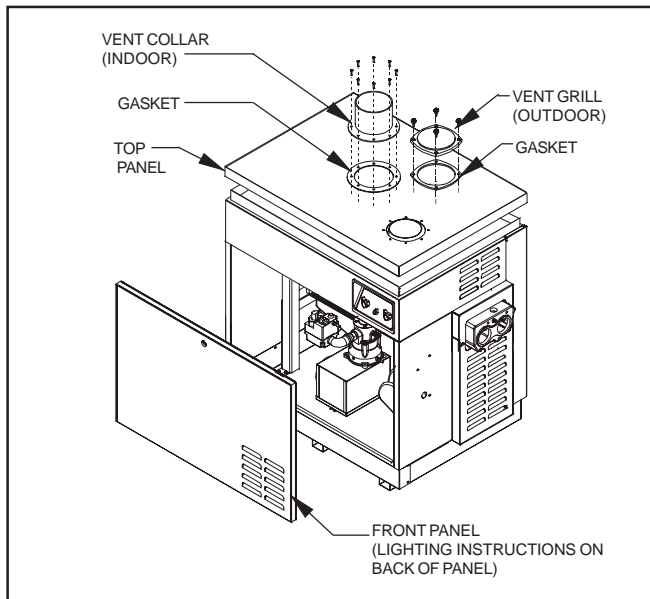

Figure 1- Remove Jacket Panels
1. Remove the front panel of the heater (see Fig. 1).
3. Remove the exhaust grill and gasket (if outdoor installation) or the vent pipe, vent collar and gasket (if indoor installation), from the top of the heater (see Fig. 1).
4. Remove the top of the heater (see Fig. 1).